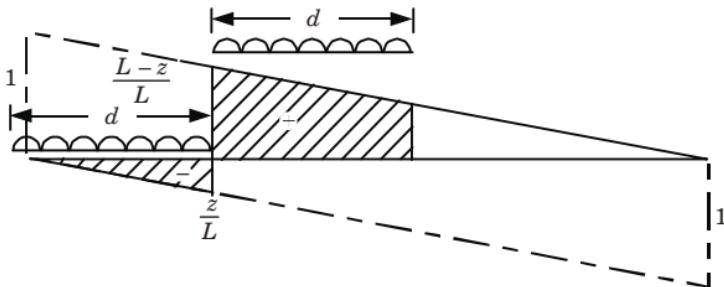

Fig. 4.6.2. Position of load for maximum +ve and -ve SF.
- When,  $d < L$ , position of this load for maximum shear force and bending moment at section  $C$ , shown in Fig. 4.6.2, are to be determined.